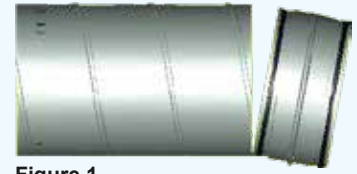

Figure 1
1. Start by inserting the gasketed end of the fitting into the spiral pipe (*figure 1*).